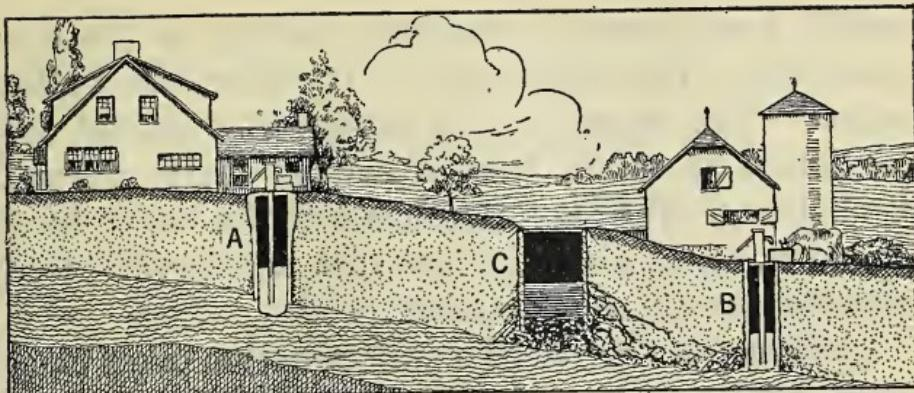

Fig. 23. The house well A will furnish pure water. The barn well B will receive drainage from cesspool C. The water will be impure and should not be used.
71. Cesspools may be dangerous. Cesspools are sometimes a source of danger. If they are placed so that water drains from them into the well, the well water becomes contaminated or polluted and causes disease. They always must be so placed that the *drainage is away from the water supply* (Fig. 23).